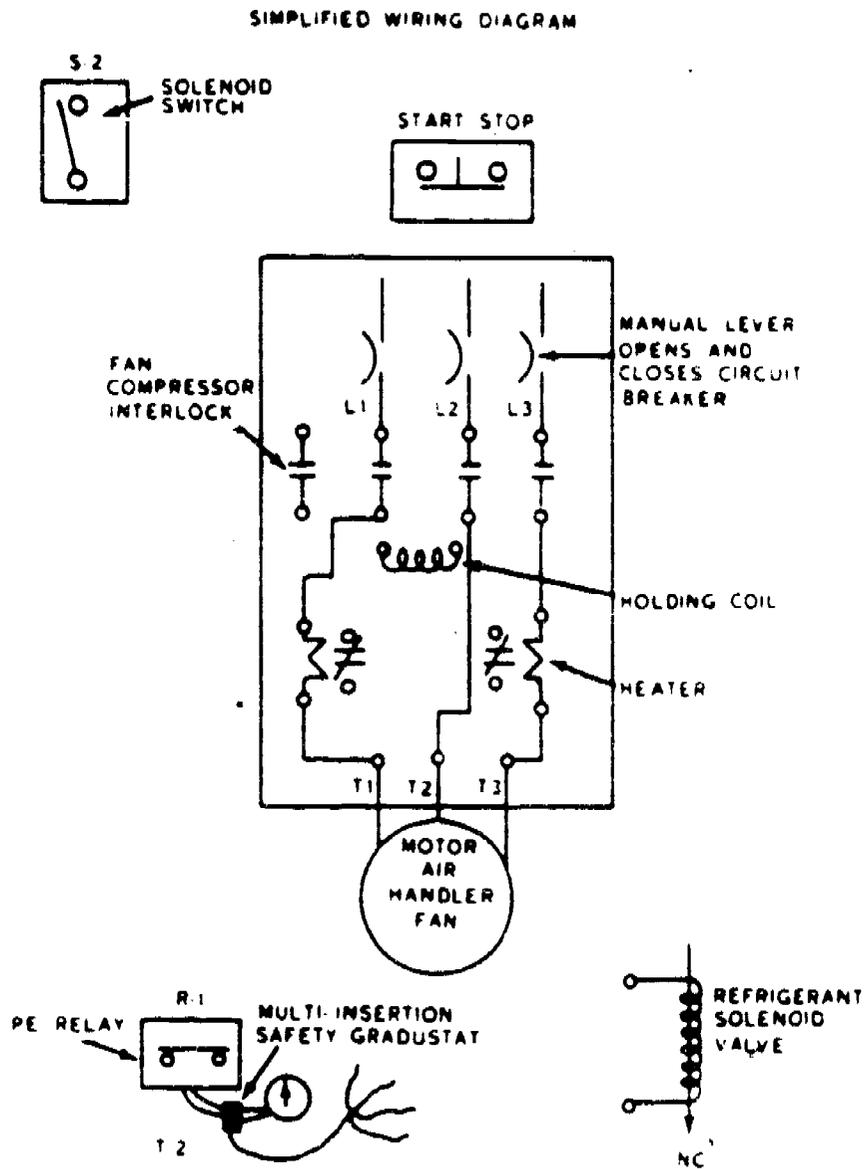

Figure 4. Magnetic Line Starter and Air Handler Controls
3. Use a blue pencil and connect the safety controls (figure 4 ) in series: